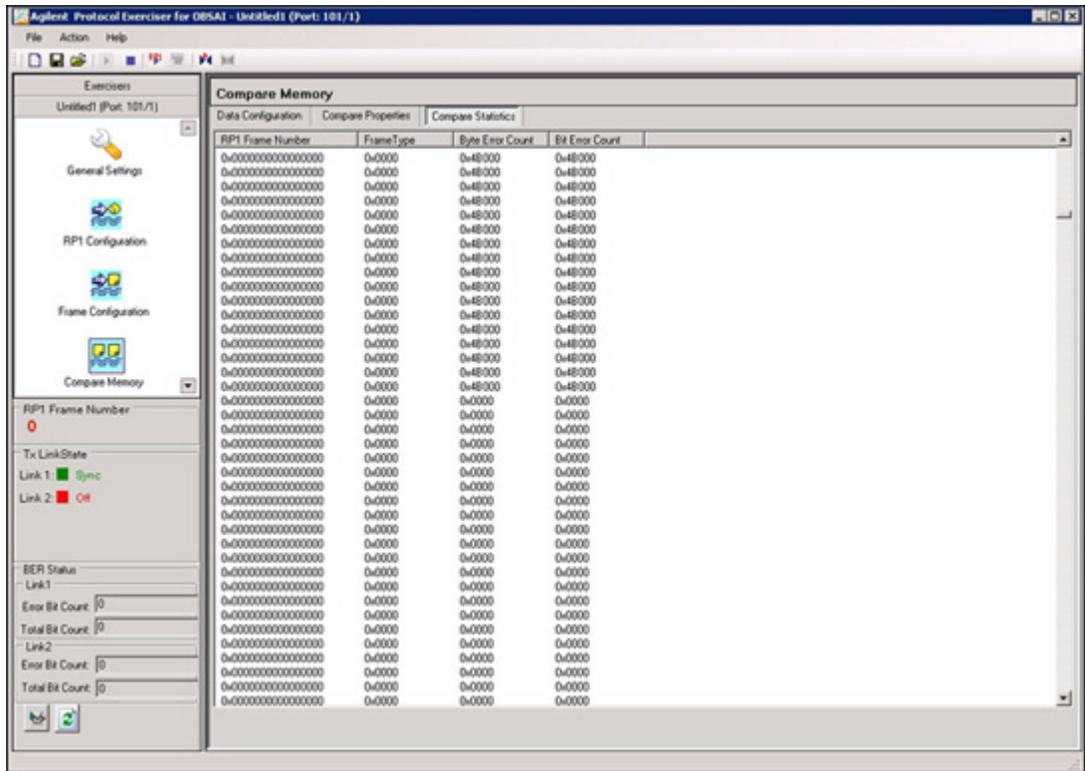

Figure 35 Compare Statistics screen
- 1 Click **Compare Statistics** to view the mismatch details as shown in the Figure 35.